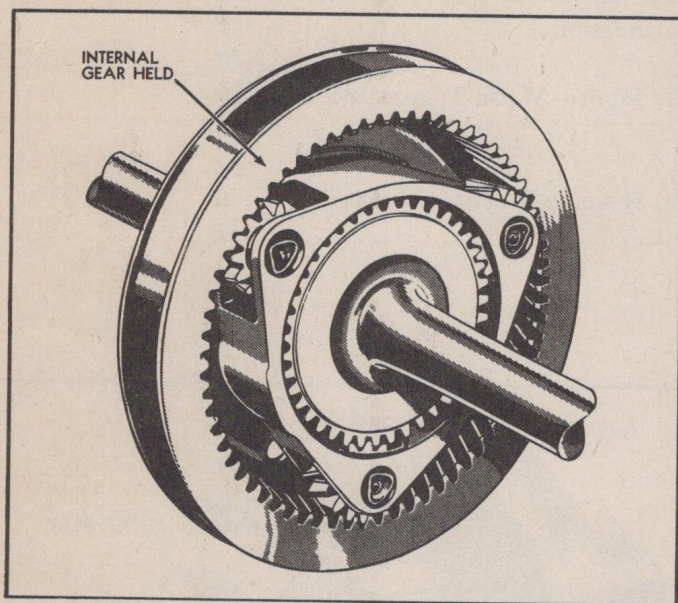

Fig. 6—Reduction—Internal Gear Held
1. A planetary gear train can be used to increase power and decrease speed in either of two ways (Figs. 6 and 7).
- a. In Fig. 6 the internal gear is held stationary, and power is applied to the center gear. As the center gear turns, the planet pinion gears, which are in mesh with it, rotate on their respective pins. Since they are also in mesh with the stationary internal gear, they must "walk around" inside the internal gear, carrying the planet carrier with them in the same direction of rotation as the center gear. The planet carrier then rotates at a